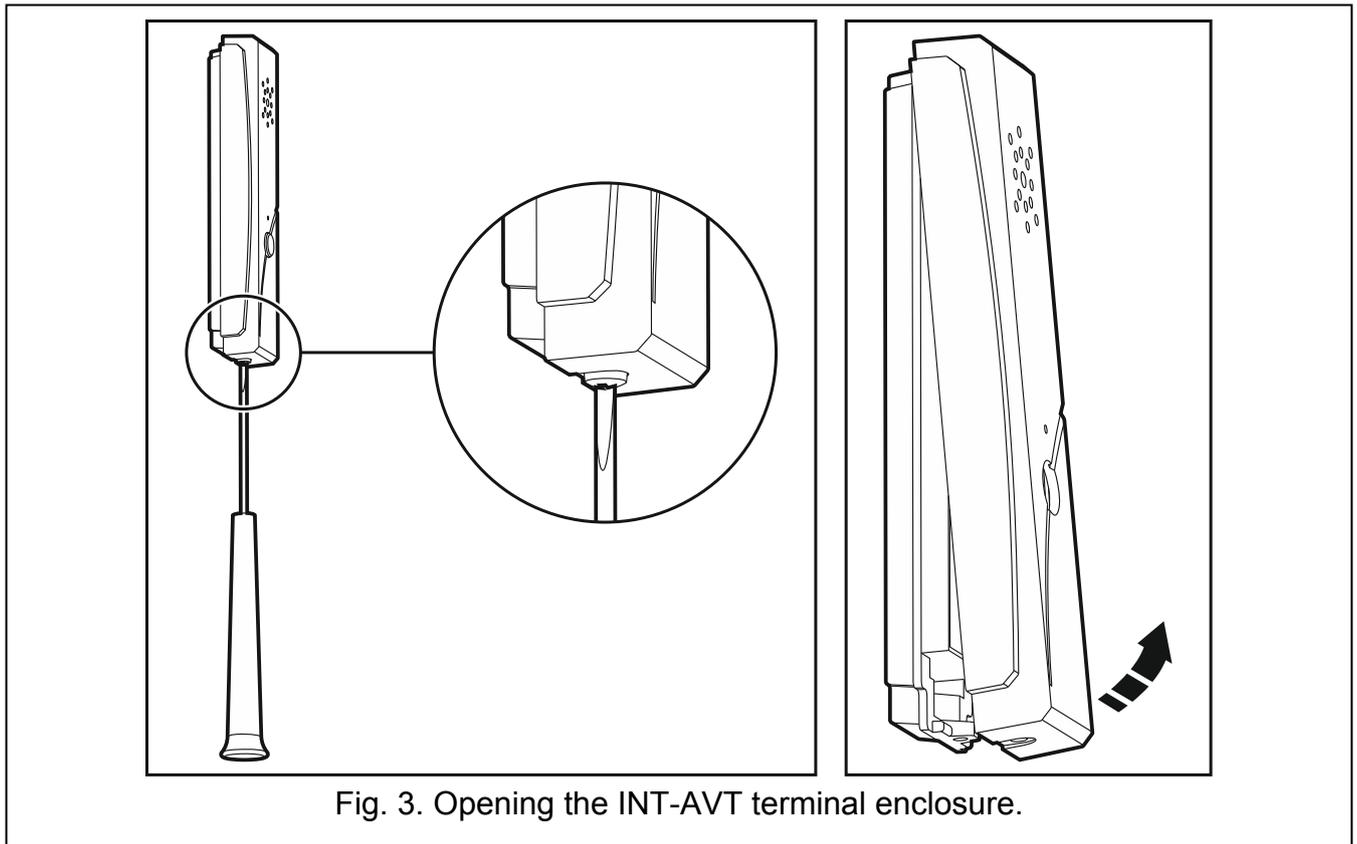

Fig. 3. Opening the INT-AVT terminal enclosure.
1. Remove the screw, lift the enclosure cover and detach it (see Fig.. 3). The cover will still be connected to the base by the speaker wires.